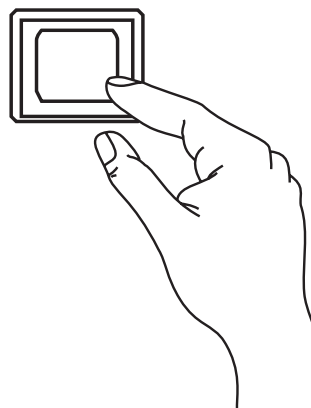

Figure 106. Program Exit Button
4. Releasing the **Hour Check Button** and pressing the **Program/Exit Button** (Figure 106) on the ECU controller will return the controller to the main screen.